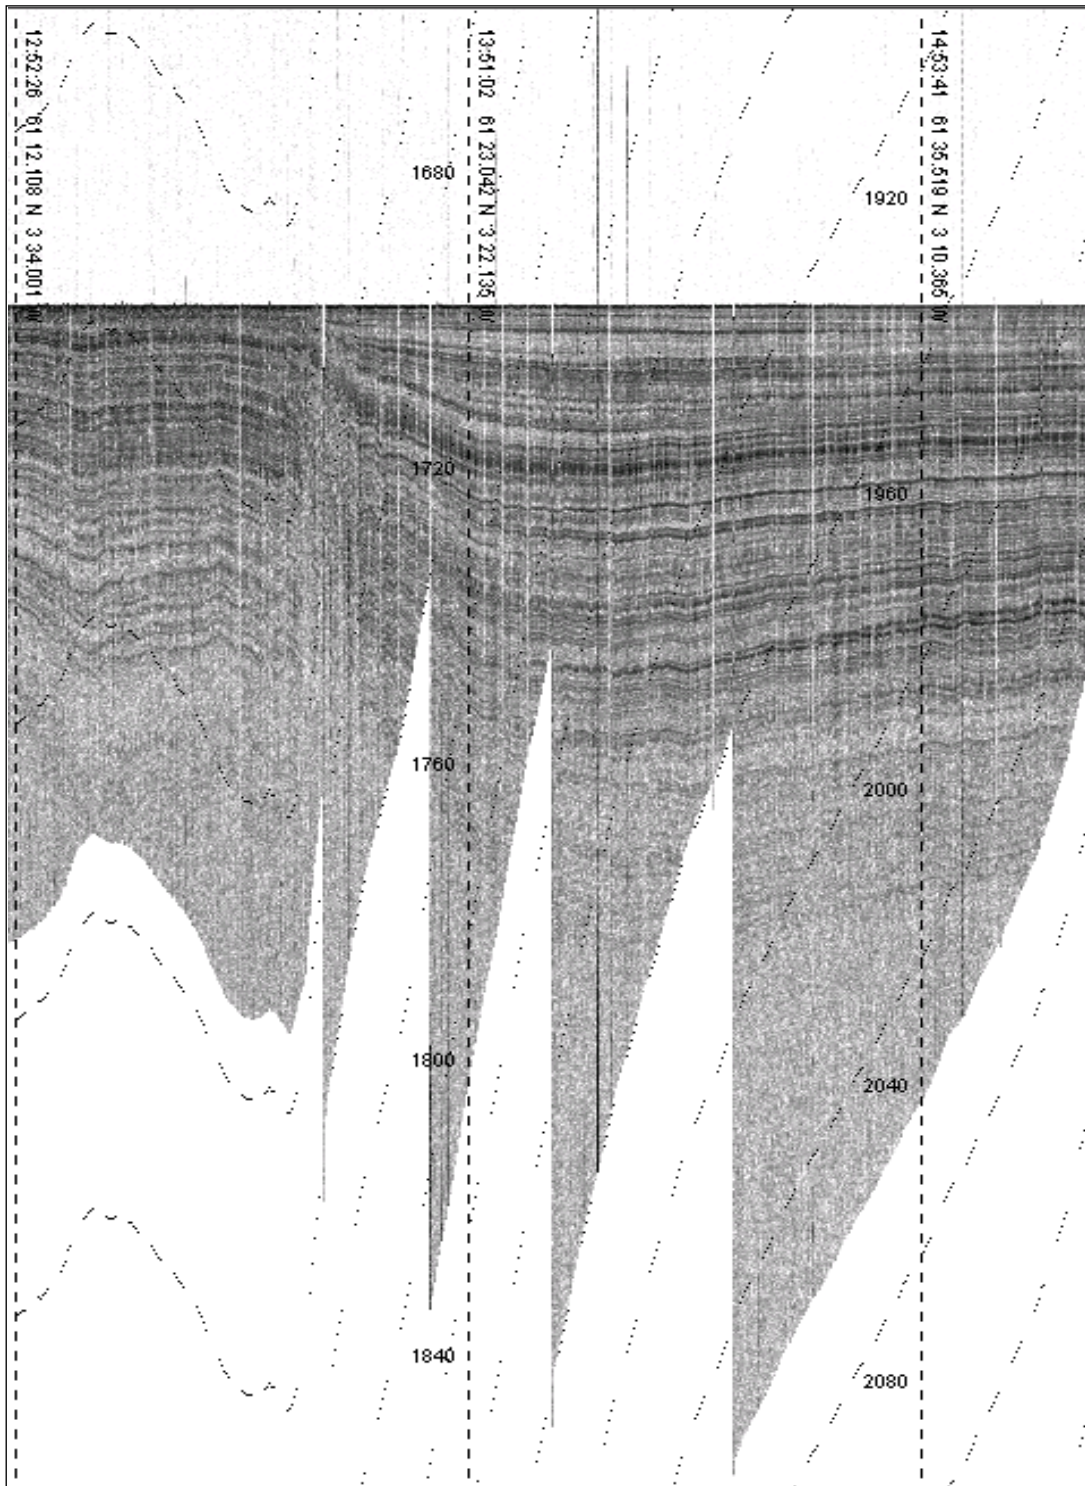

Figure 4-6 The figure shows the echogram area when “Bottom lock” is enabled.
- Bottom lock:** Makes the system lock onto the bottom see Figure 4-6.